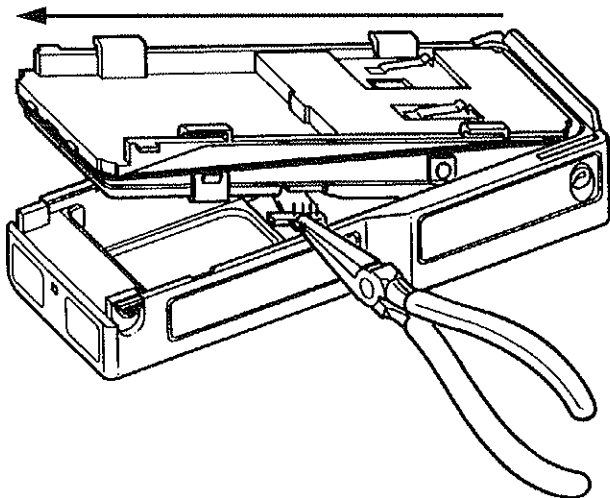

Figure 1-4. Remove Ribbon Cable Connector
5. Remove the ribbon cable connector from the main board using pliers or a flat blade screwdriver (Figure 1-4).
6. Pull the chassis out and away from the housing as shown by the arrow (Figure 1-4).